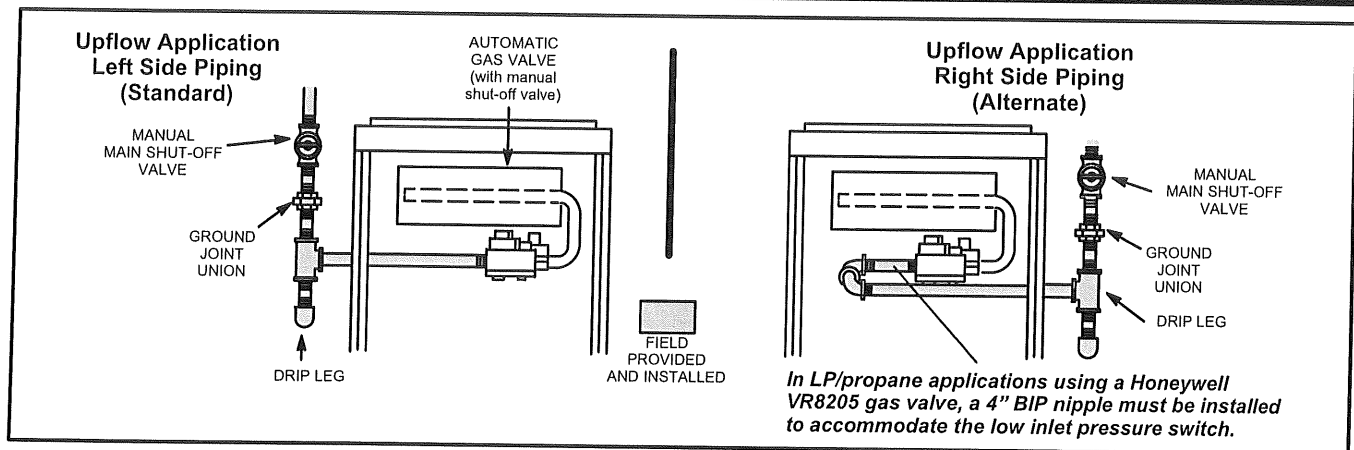

FIGURE 50
**The Honeywell VR8205 gas valve requires a low inlet pressure switch in LP/propane applications. A 4" BIP nipple must be installed in the gas valve inlet when right-side gas entry is used in LP/propane applications. See figure 50 or 51.**